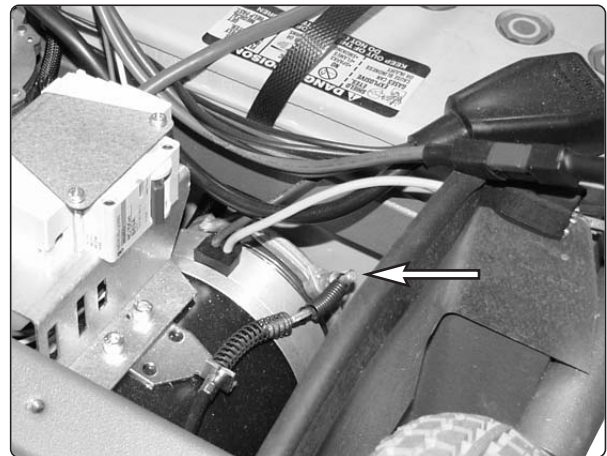

Fig.16. Brake release cable.
6. Pull the cable sleeve forwards and take the cable out through the slot in the cable mounting. Unhook the brake release cable from the magnetic brake, see fig. 16.